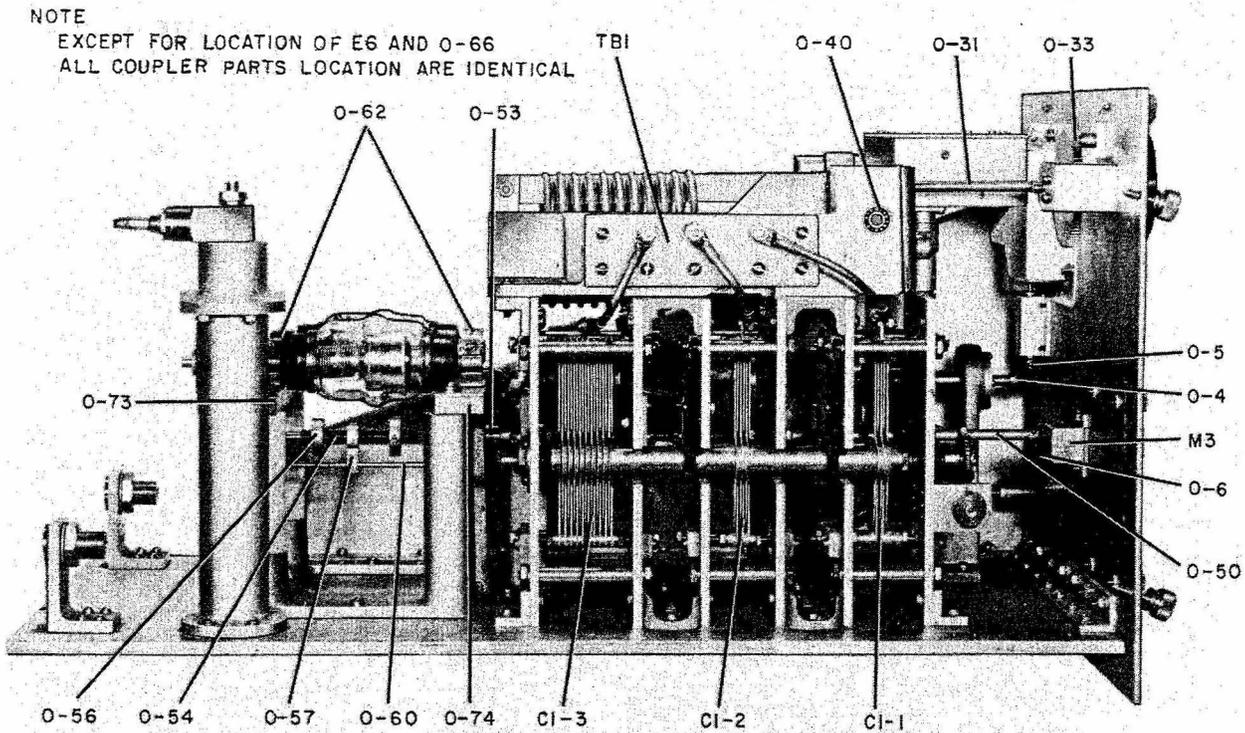

Figure 7-7. Coupler, Antenna CU-422/SRA-16, Left View, Location of Parts
d. ROTATING COUNTER M2-COUPLING CONTROL. (See Figure 7-7.)
(1) REMOVAL.